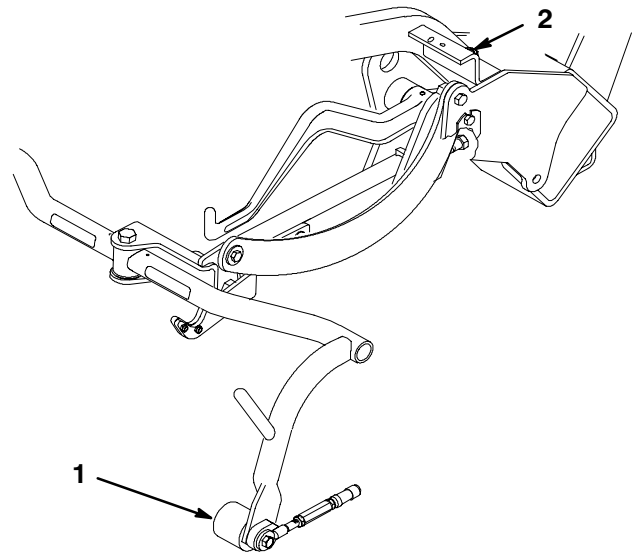

Figure 9
3. If an adjustment is required, loosen the jam nut on the carrier frame stop screw (Fig. 9) and rotate the screw up or down to raise or lower the carrier frame. Tighten the jam nut after adjustment is attained.